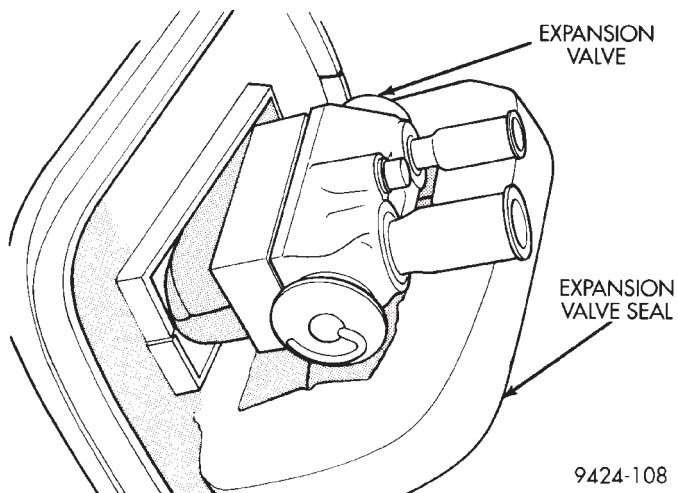

**Fig. 70 Evaporator Seal**
- (16) Remove evaporator seal from housing (Fig. 70).